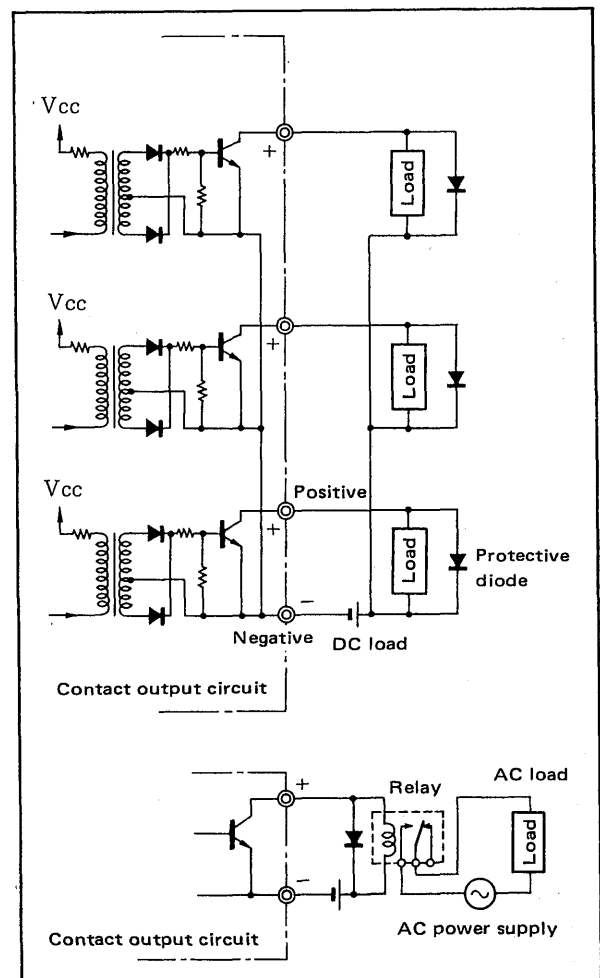

Figure 3-1-3. Connection of Contact Outputs.
- (1) Be sure to terminate all cable connections using solderless crimp-on lugs.
- (2) Each status and voltage input must be as per SLCC\*E specifications. Note the limits on conductor resistance, voltage drop in conductors, and voltage (high/low) levels.
- (3) The fail and digital outputs are transistor contact signals (isolated from power supply and other internal circuitry). When connecting external devices, pay attention to the following: (See Figure 3-1-3.)
- When connecting a relay or other such inductive device, connect a surge absorber (protective diode - Figure 3-1-3, CR circuit, etc.) in parallel with the load.
- (4) Use shielded twisted-pair SCCD cable for communication lines (terminals 17, 18).